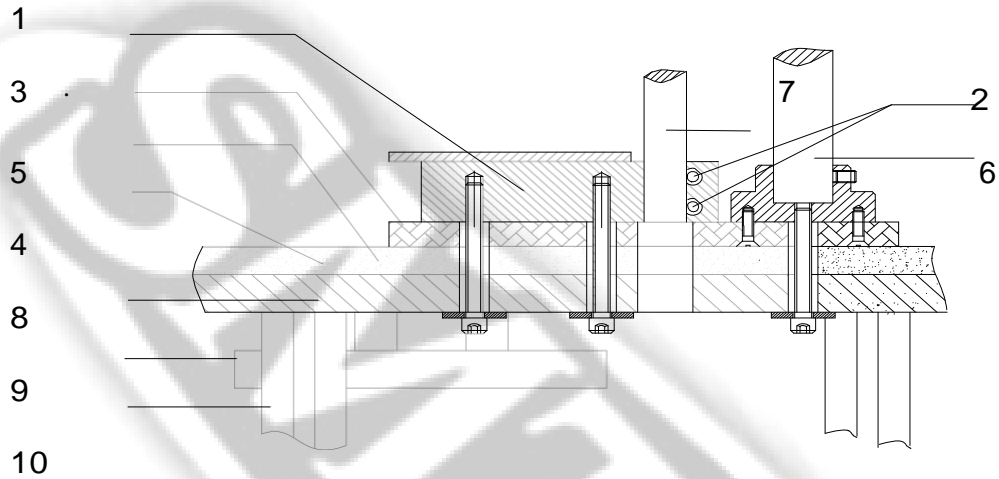

Fig. 10 Quadrate Stand, Soleplate, Column and Work Head Configuration and Installation
As Fig. 10 shows, the big round hole of the Quadrate Stand (1) is used to fix and install the Header Column (7), tighten two fixing bolts (2) on the outside of the big round hole to fix the Header Column. The soleplate (3) is made by high rigid resin board, the three small holes on the left upper corner of the soleplate are used to fix the microscope bracket (6). The three through holes on the central line of the soleplate are used to fix the Quadrate Stand and Column on the Worktable by the long nut, while the Work Head can be caught and fixed on the Quadrate Stand.
As Fig. 10 shows, the Worktable consists of a special designed armored glass desk face (4), wood desk board (8), small drawer (9) and Section Aluminum platform (10) etc. Due to the screws
First use screws in the four corners of wood desk board to fix the four feet of the Section Aluminum platform, then place the glass desk face, as Fig. 10 shows, use three long bolts into the through holes between the glass desk face and wood desk board to fix the Header, the Microscope bracket and the glass desk face as well. The small drawer is installed under the wood desk surface.
See Fig. 10, first use a countersunk head screw to fix the soleplate and the column of the microscope, then insert and tighten three long bolts by through holes among wood desk board, the soleplate and the armored glass desk face and fix the quadrate stand and the column base respectively.